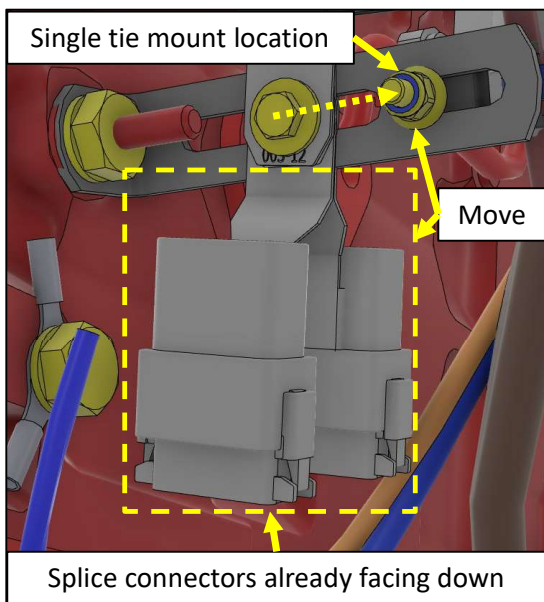

Figure 4 – Splice Connectors with Wire Entry Already Facing Down
4. Move the 2 lower splice connectors with wire entry already facing down so that they are positioned and reassembled at the single tie mount location (see figures 4, 5 & 6). Before fastening, ensure that the mounting hardware parts stacking is the same as on figures 5 & 6.